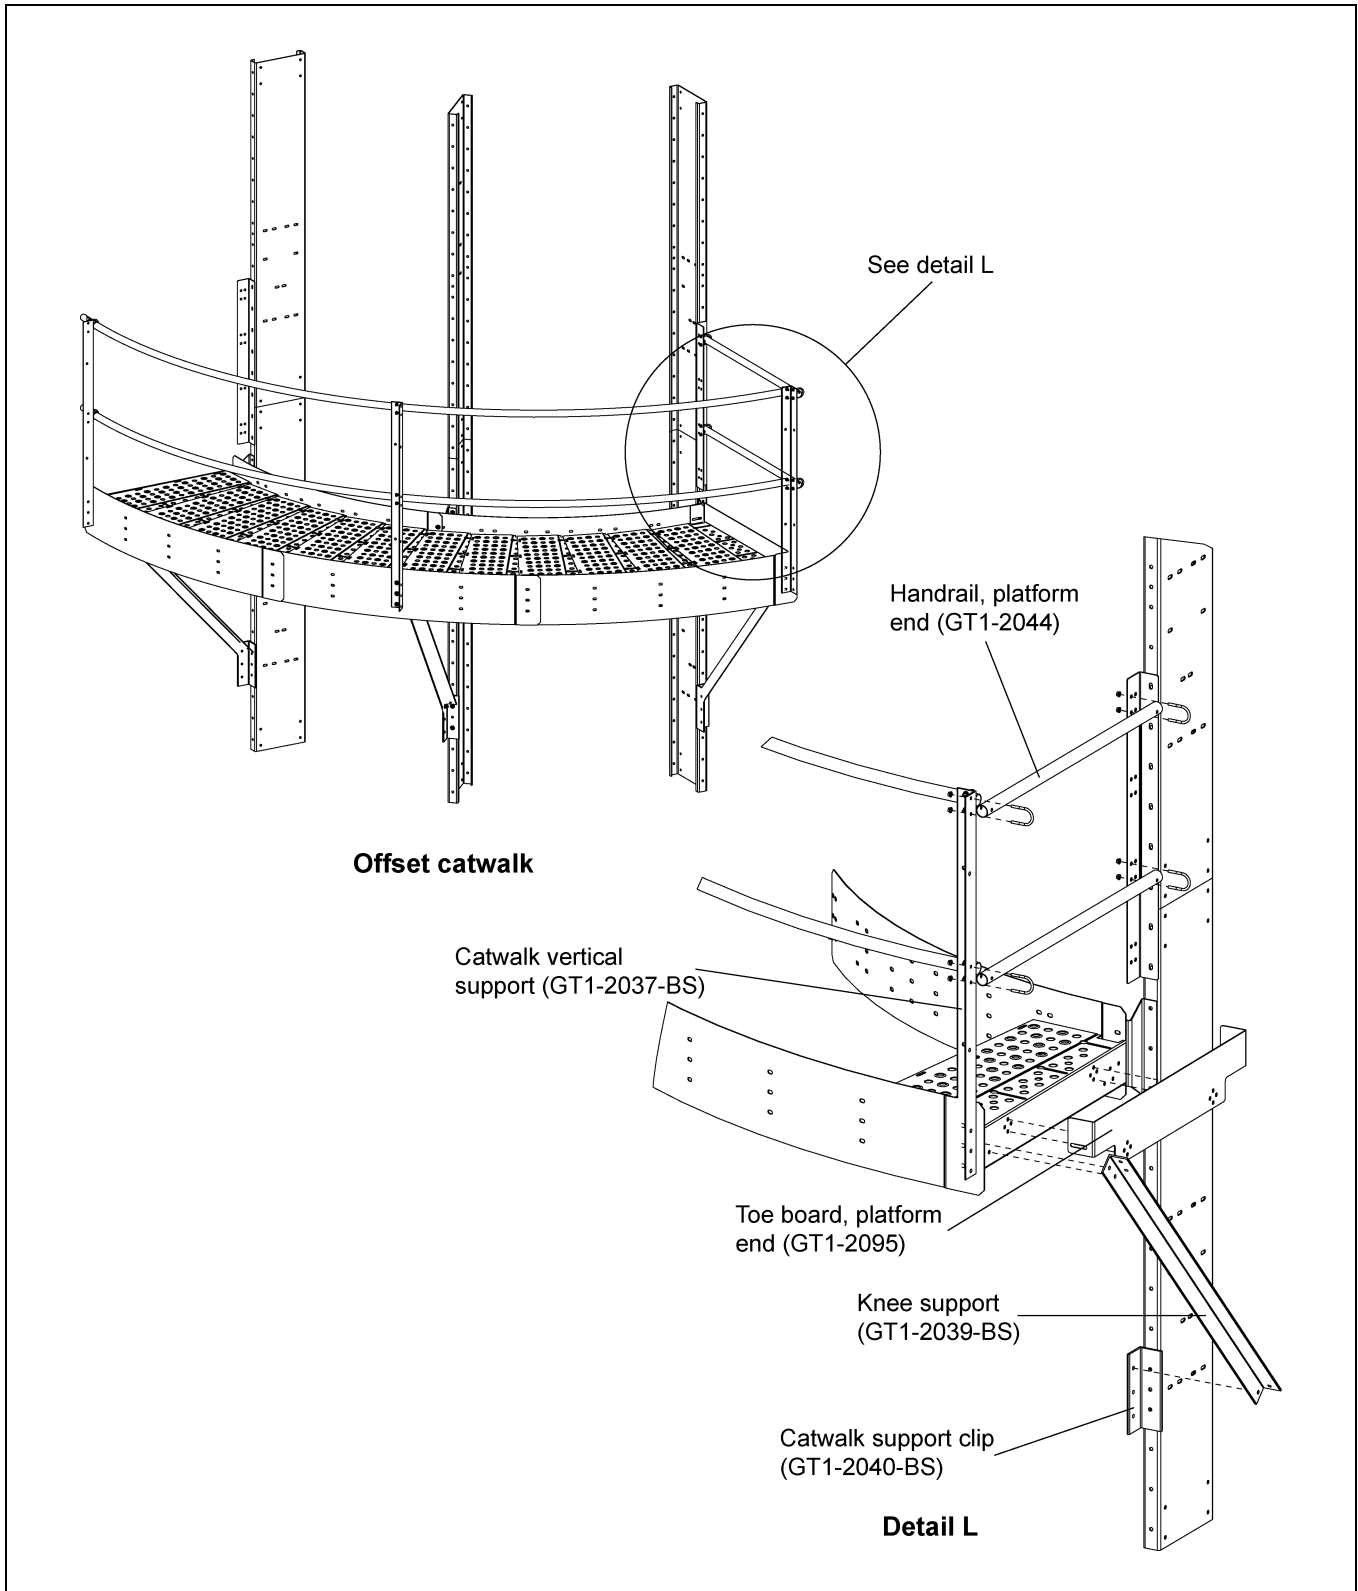
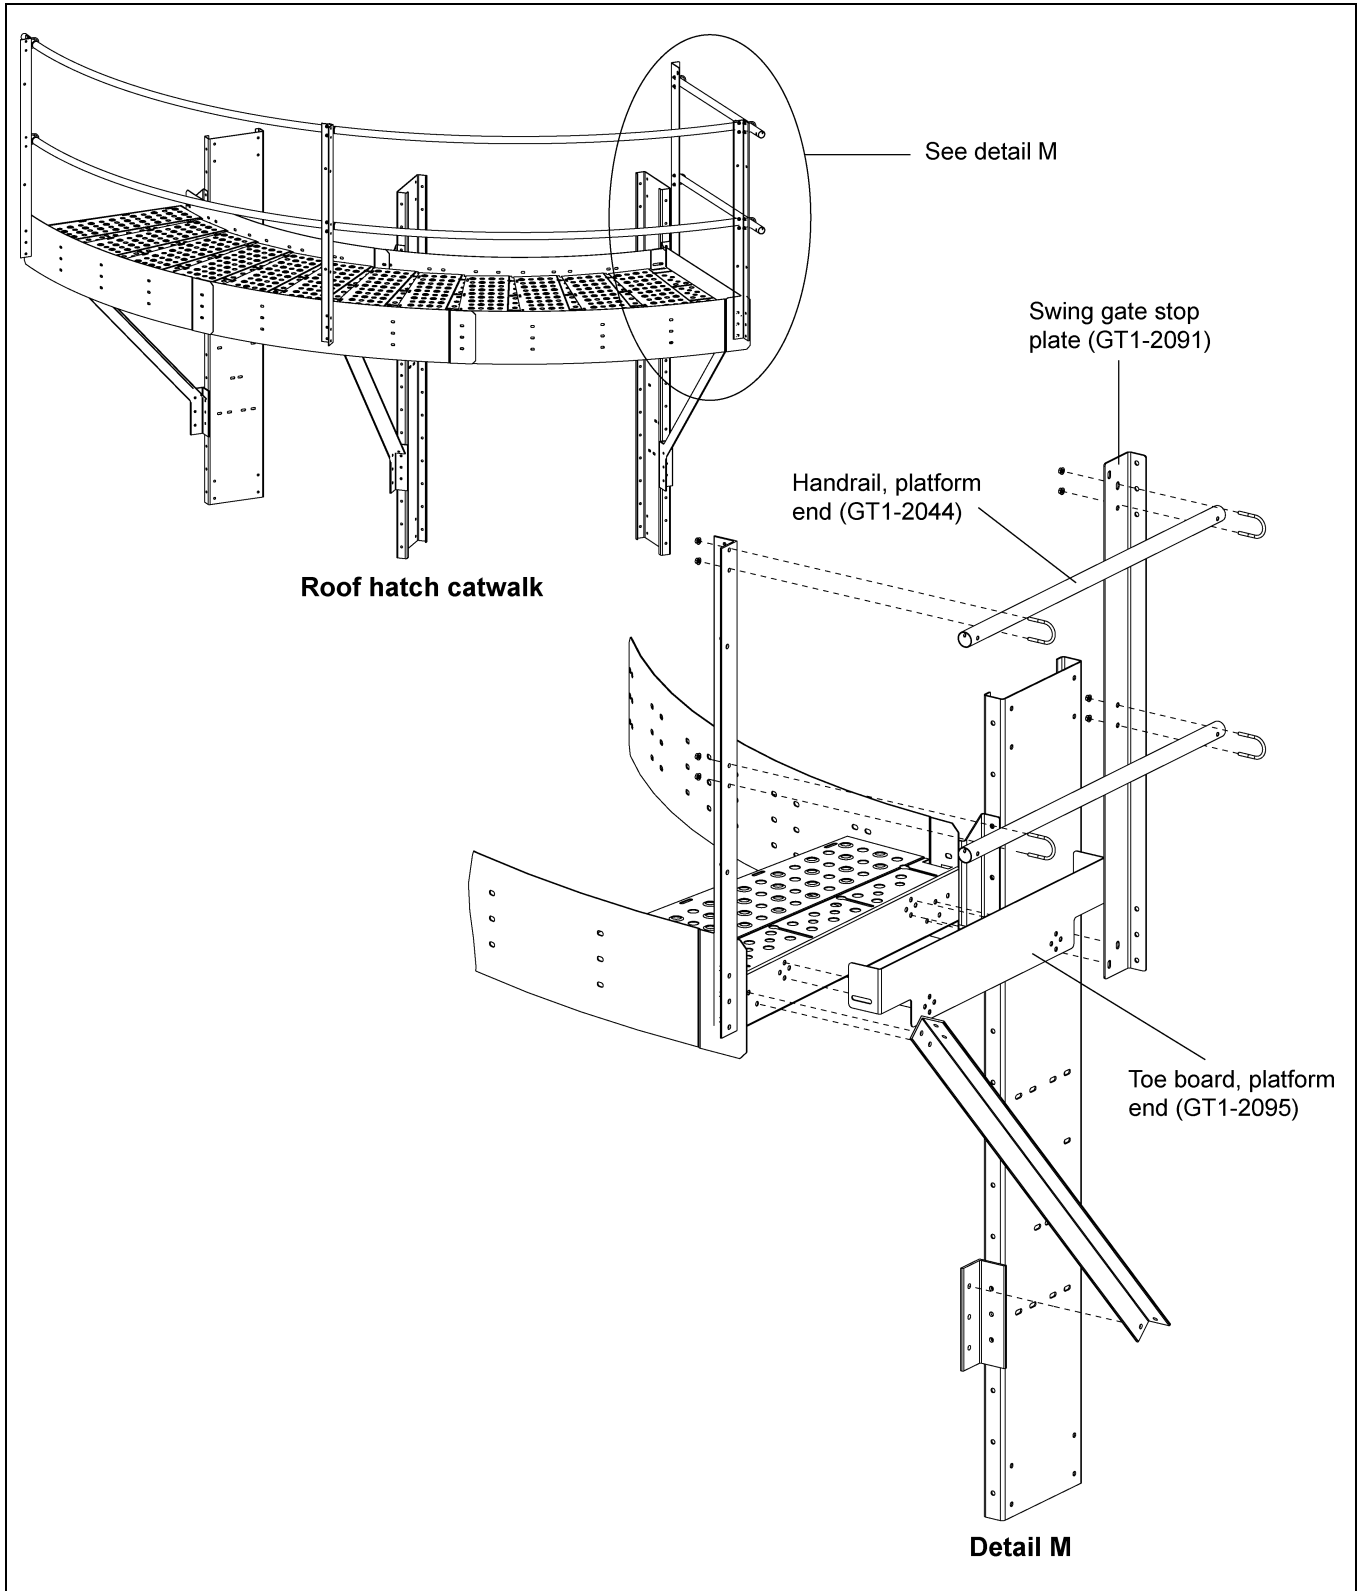

Figure 6V Offset Platform End Handrail (GT1-2044) Installation
Figure 6W Roof Hatch Platform End Handrail (GT1-2044) Installation
3. Install the platform end handrail (GT1-2044) to the catwalk vertical support (GT1-2037-BS) and the platform end plate (GT1-2045). (See *Figure 6V below and Figure 6W on Page 61.*)